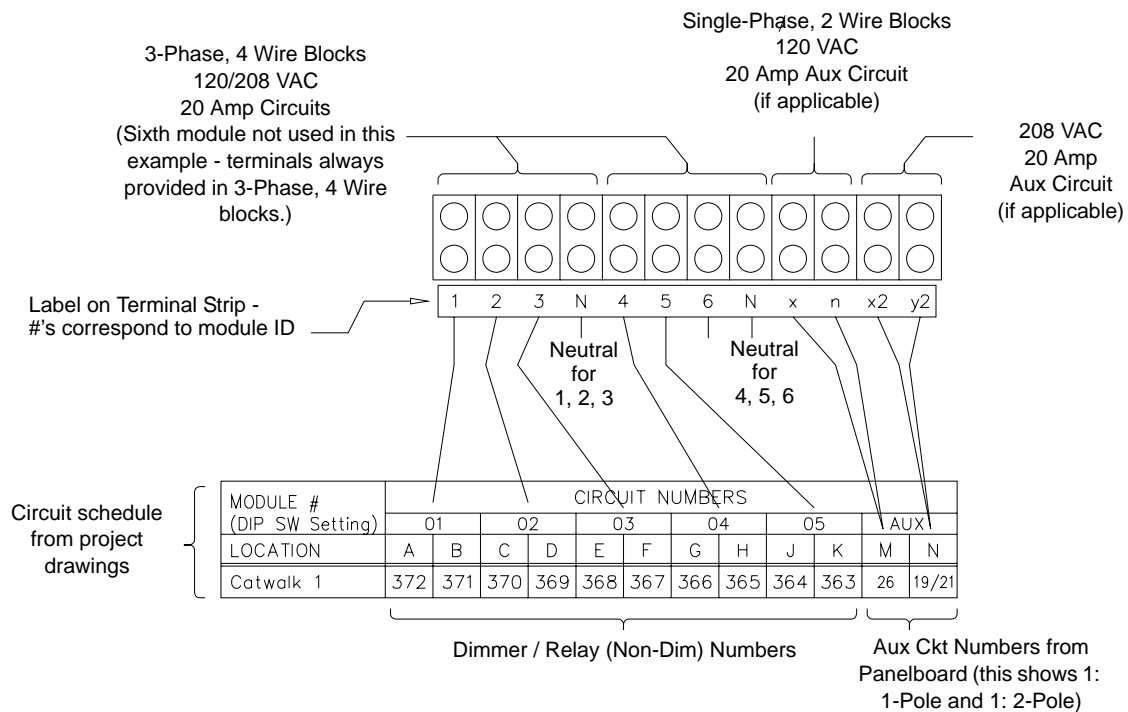
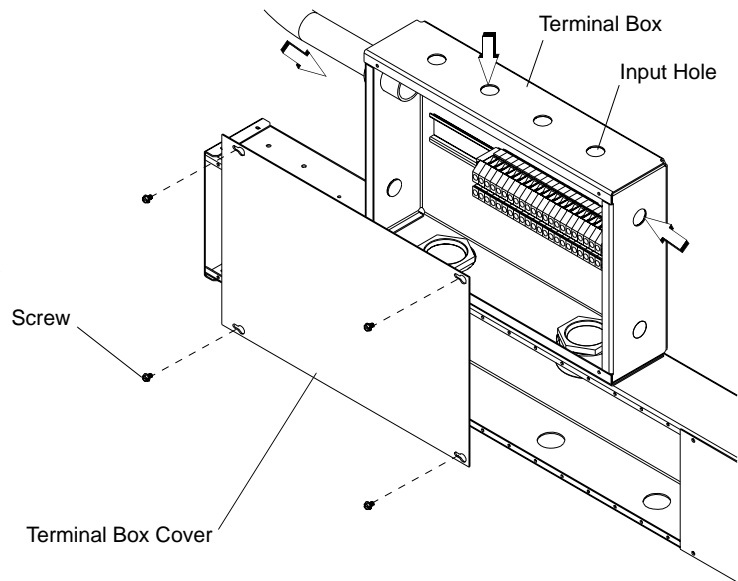

Figure 11: Terminal Box Wiring Key
Figure 12: Connecting Line Power - Removing Terminal Box Cover
- Line power wiring may enter the unit through the top or side of the Power Terminal Box. See **Figure 12** under "Line Power" on page 15.
The R21 Powered Raceway is designed to be wired from the top or side of the Power Terminal Box (see **Figure 12** on next page). Eight knock-out holes are provided (four on top, two on each side) for this purpose. We recommend connecting the Line Power wiring and Grounds (if applicable) first, and the Load Neutral and Load Hot wires last. Refer to **Figure 11** below for wiring key.
- Step 2. Route line power wiring from power source to top or side of terminal box (**Figure 12**).